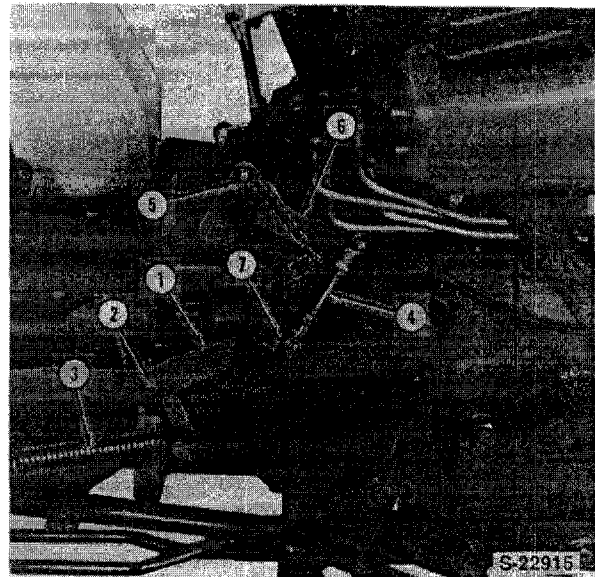

Figure 100
7. Remove the pedal control rod (4) and HST control rod (5) from the pivot link (6), Figure 100.
9. Remove the damper spring assembly (3) from the mounting bracket, Figure 100.
10. Remove the snap ring (2), Figure 100, from the pedal shaft and remove the pedal and damper as an assembly, Figure 100.
1. Adjust the length of rod (4) between the HST pedal and shift link to 5.1 in. (129.5 mm), Figure 100, and install it.
2. Adjust the length of the rod (5) between the HST unit and shift link to 5.4 in. (137 mm), Figure 100, and install it.
1. With the foot pedal fully depressed in the forward position, adjust the length of the stop bolt (7), Figure 100, to just contact the step plate and then lengthen it by two full turns.